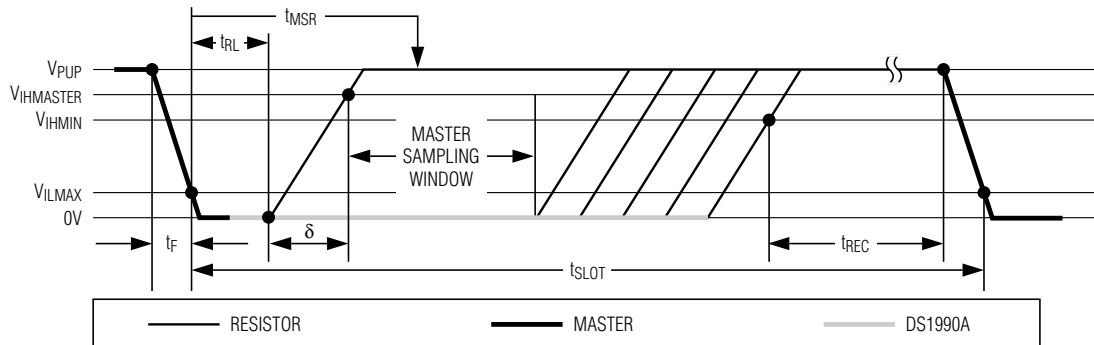

Figure 7. Read/Write Timing Diagram
- Note 14:** ϵ in Figure 7 represents the time required for the pullup circuitry to pull the voltage on IO up from V_{IL} to V_{IH} . The actual maximum duration for the master to pull the line low is $t_{W1LMAX} + t_F - \epsilon$ and $t_{W0LMAX} + t_F - \epsilon$, respectively.
- Note 15:** δ in Figure 7 represents the time required for the pullup circuitry to pull the voltage on IO up from V_{IL} to the input-high threshold of the bus master. The actual maximum duration for the master to pull the line low is $t_{RLMAX} + t_F$.
Data communication with the DS1990A takes place in time slots that carry a single bit each. Write time slots transport data from bus master to slave. Read time slots transfer data from slave to master. The definitions of the write and read time slots are illustrated in Figure 7.
| | Added the epsilon timing to the Write-Zero Time Slot in Figure 7. | 8 |